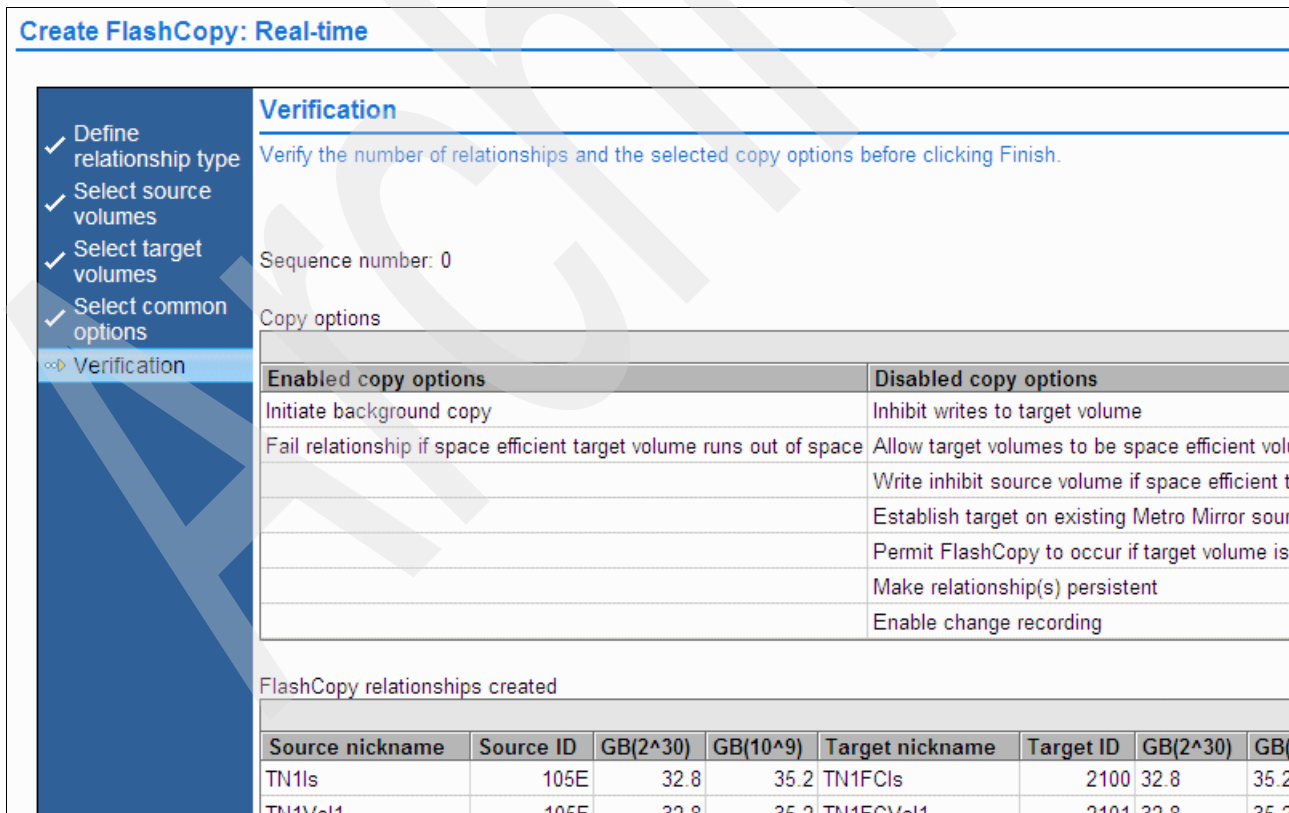

Figure 11-10 Verifying the FlashCopy options
- In the Verification panel, verify that the source and target LUNs are as required, as shown in Figure 11-10. Click **Finish** to continue the FlashCopy implementation.